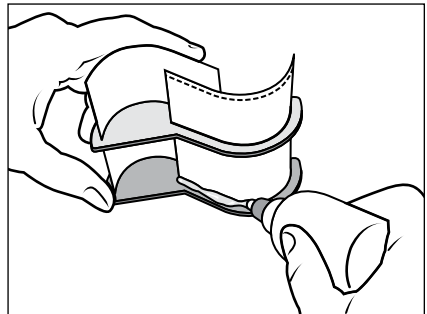

Figure 4
- 5) Place one of the assemblies on one of the sides with the dotted line. Push one support down level to the work surface and flush with the end of the blade. Place a thin bead of glue where the blade and the support connect (Figure 4). You might need to push the glue in to the seams a bit with your finger or a cotton swab. Do this for both assemblies and let them dry.